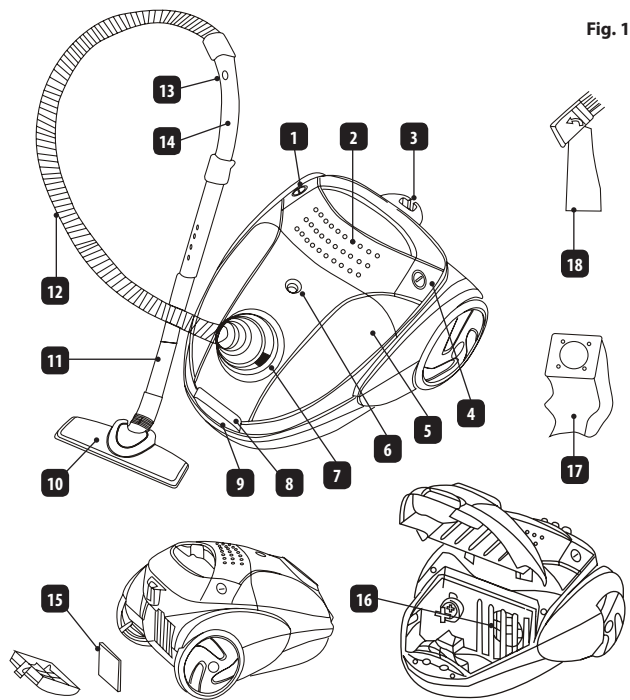

Fig. 1
- check if the filters (**15, 16**) are installed - **Fig. 1**,
- the internal inlet filter (16) protects, among others, the motor against damage. The filter can be accessed by opening the lid (5) and pulling out the dust bag (17),
- external filter (15) is a protection against air pollution in vacuumed rooms. The filter can be accessed by opening the filter lid (15) - Fig. 1.